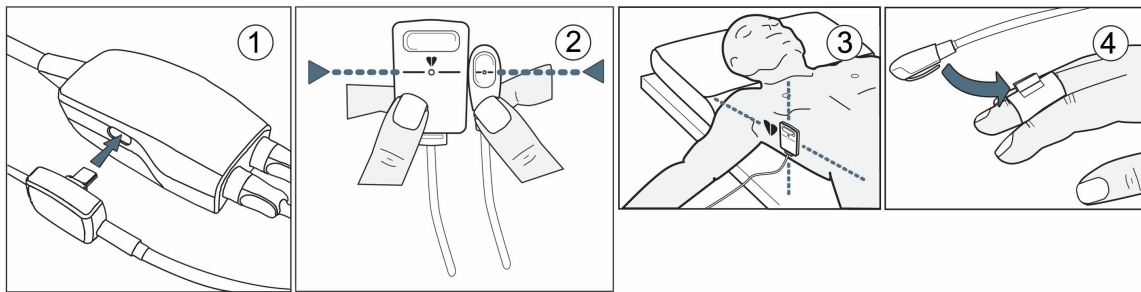

Figure 11-4: Heart reference sensor application
1. Connect the HRS to the pressure controller. See (1) in Figure 11-4 on page 194.
3. Vertically align both ends of the HRS and touch the zero button. See (2) in Figure 11-4 on page 194.
5. Apply the heart end of the HRS to the patient at phlebostatic axis level by using an HRS clip. See (3) in Figure 11-4 on page 194.
6. Attach the other end of the HRS to the finger cuff. See (4) in Figure 11-4 on page 194.